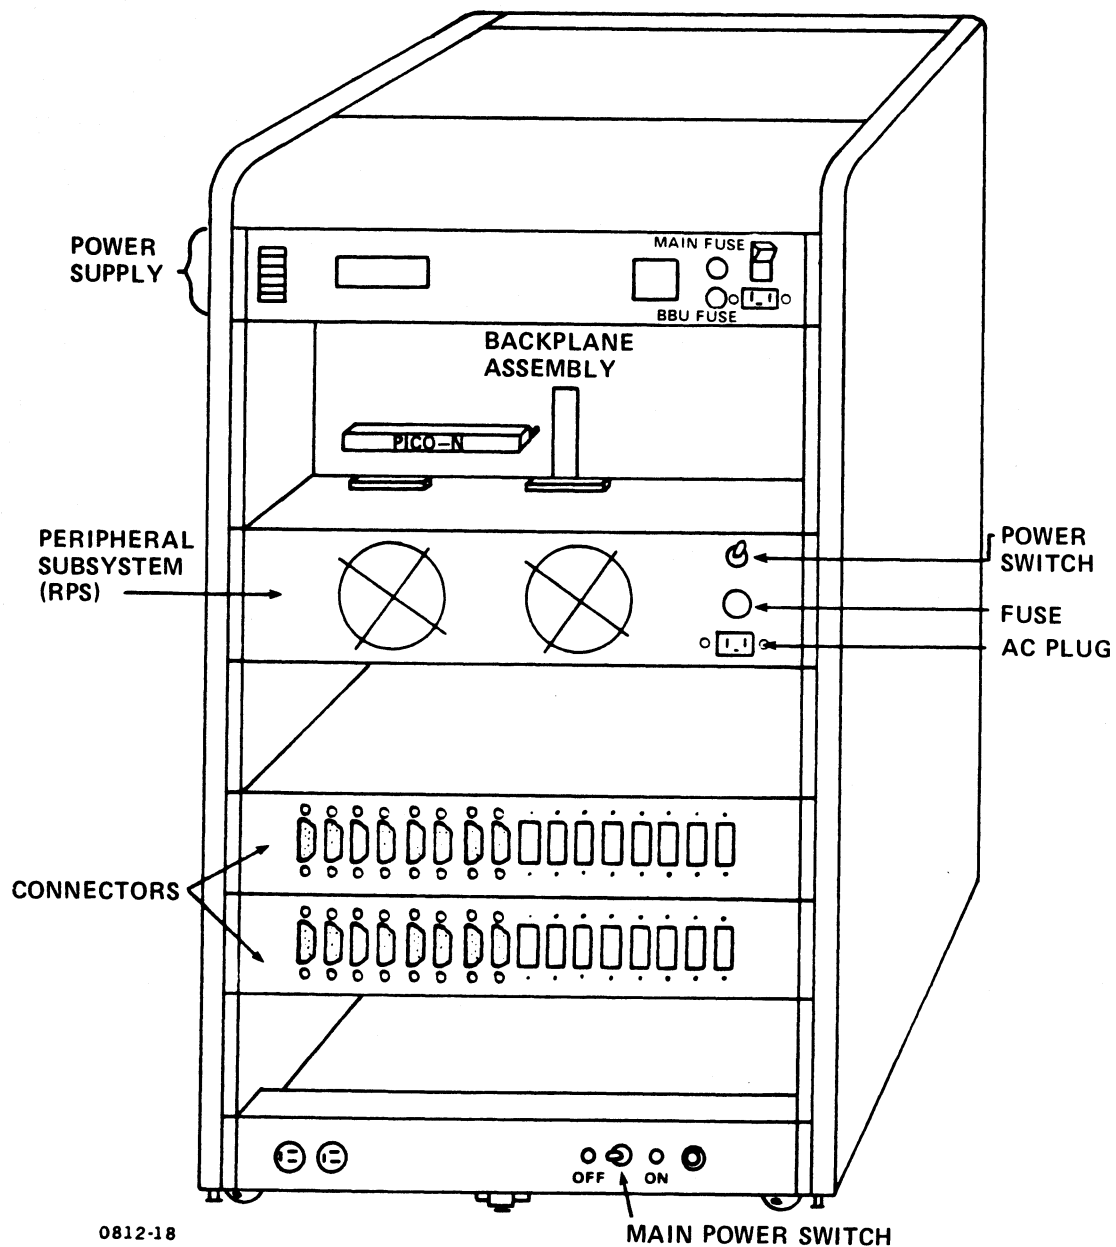

Figure 4-2. Rear View, MARK 6 Integrated System
6. Make certain that the main power switch at the bottom of the cabinet is set to OFF (see Figure 4-2).